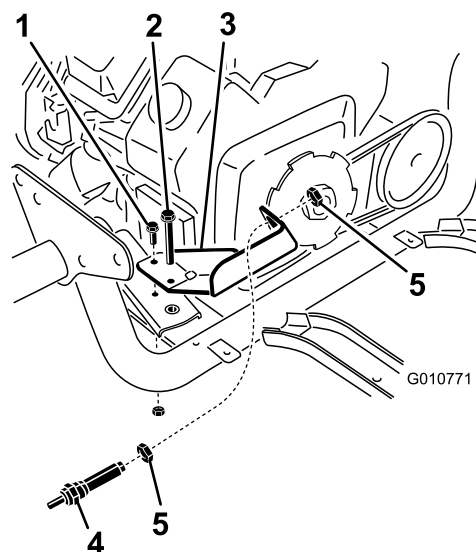

Figure 5
14. Install the magnetic pick up mount to the engine mount with a new bolt and washer and the bolt previously removed (Figure 5).
15. Loosely install magnetic sensor to the magnetic pick up mount with the jam nuts (Figure 5).